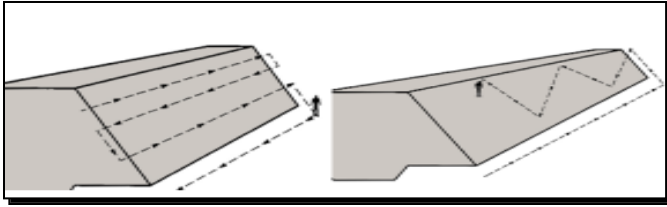

Figure 1: Inspection methods typically follow a zigzag or parallel method.
**Zigzag vs. Parallel** – These are two methods primarily used to inspect a dam: zigzag or parallel (Figure 1). Typically, the zigzag method can be used on small dams by inspectors who are physically fit. The parallel method is useful for steep or rocky slopes. For both methods, it is important to make sure that the inspector stops periodically and turns 360° to observe the slopes near and far for anything unusual before continuing on the inspection.